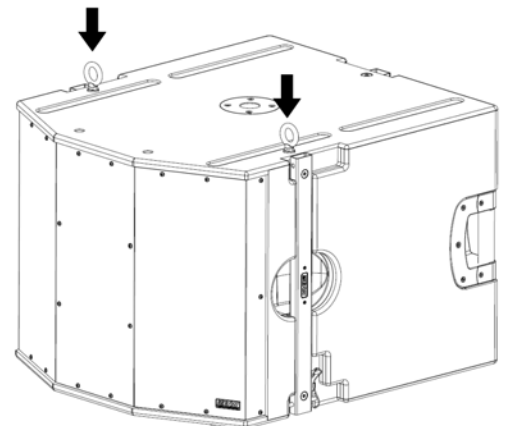
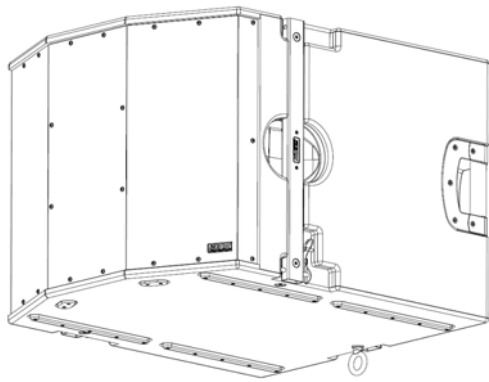
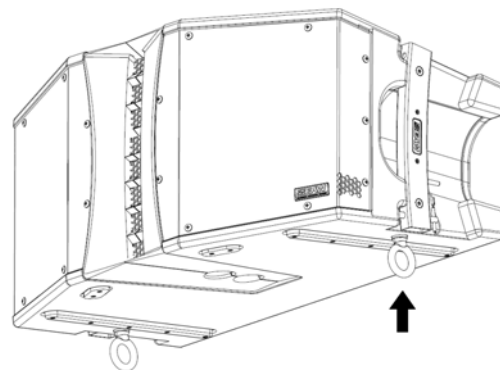

Figure 1
Figure 2 ↑
Figure 3 ↑
Up to six (6) JFL118/JFL210 loudspeakers may be vertically suspended in a column below either the FB121 Fly Bar or M10 Eye Bolts. JFL210 loudspeakers must be flown below JFL118 loudspeakers in a mixed array. Two (2) M10 Eye Bolts must be installed in the front PI points of the top loudspeaker of Eye Bolt suspended arrays (Figure 1). For a JFL118 only array, one (1) M10 Eye Bolt may be installed in the rear PI point of the bottom loudspeaker as a pullback point to set the desired array tilt angle (Figure 2). For a mixed array, two (2) M10 Eye Bolts may be installed in the PI points of the bottom JFL210 loudspeaker and bridled together to be used as pullback points to set the desired array tilt angle (Figure 3).